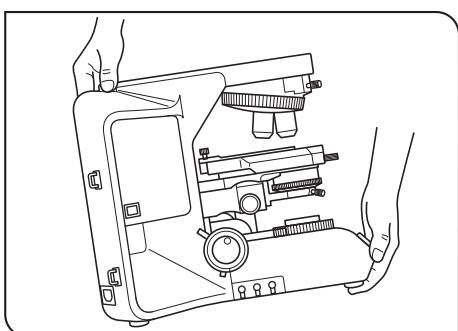

Fig. 2
(Fig. 2)
3. When moving the microscope, remove the observation and specimen and carefully carry the microscope by holding the grasping part on the rear of the arm and the front part of the base as shown in Fig. 2.